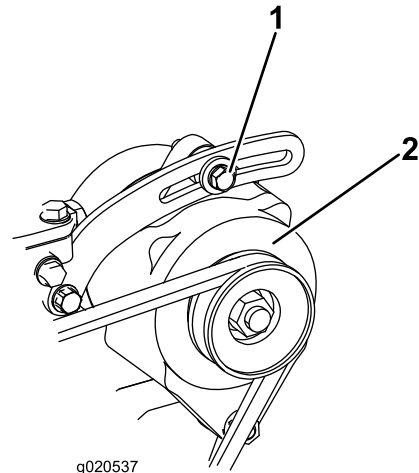

Figure 144
3. Check the tension of the alternator belt by pressing it (Figure 144) midway between the alternator and the crankshaft pulleys with 10 kg (22 lb) of force.
4. Loosen the bolt securing the alternator to the brace, and the alternator pivot bolt. (Figure 144)